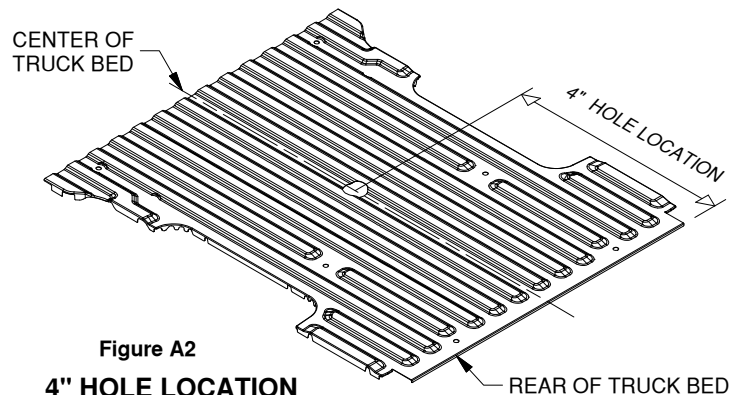

Figure A2
- 7. Mark the 4" hole location.** Using a tape measure hooked over the rear edge of the bed (at tailgate end), measure the location for the hole, as shown in Figure A2. Next, locate the center of the bed by measuring the distance between the wheel wells and dividing by two. The center of the hole will be at the intersection of the center of the bed and the first distance measured.